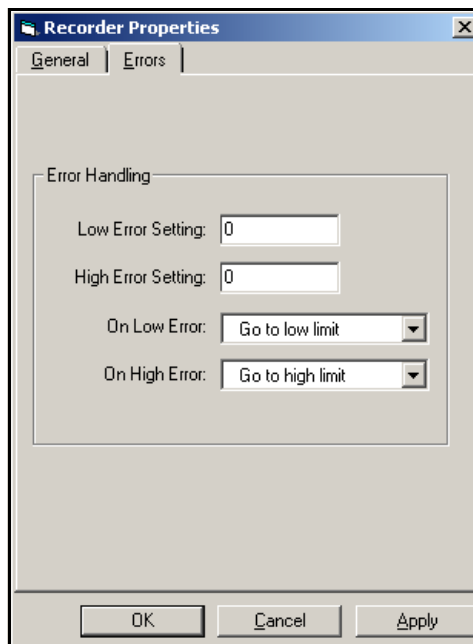

Figure 50: Recorder Errors
- Next, click on the Errors tab and select the Error Handling schemes for the On Low Error and On High Error cases from the drop-down menus. Then click on Apply (see *Figure 50* below).